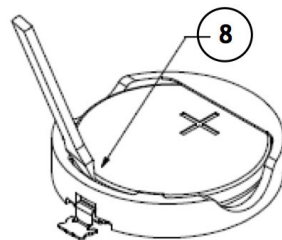

Fig.6
The LCD will show an empty battery icon when it is time to change the battery. Remove the screw cover (6) of Fig. 5 by rotating counter clockwise. A screwdriver may be required to loosen the cover. Gently pry out the old battery with a small knife or tiny screwdriver as shown in (8) of Fig. 6, being careful not to damage the battery holder. Replace with a new **CR2032 lithium coin cell battery** and replace the screw cover. Tighten the cover clockwise until the o-ring seal is slightly compressed.